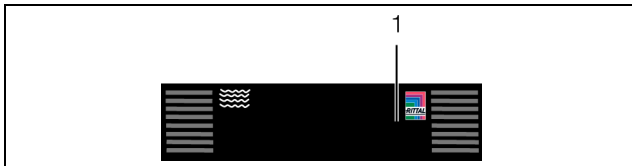
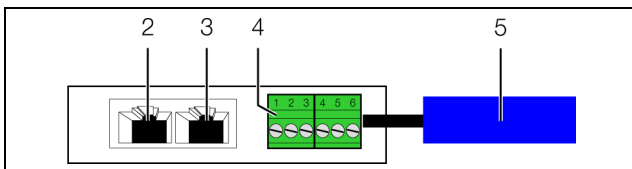

Fig. 9: Front of the airflow sensor
Fig. 10: Rear of the airflow sensor
A multi-LED for the status display is integrated into the front of the airflow sensor (fig. 9, item 1). Further LEDs are located at the rear on the CAN bus connection (fig. 10, item 2 and item 3).